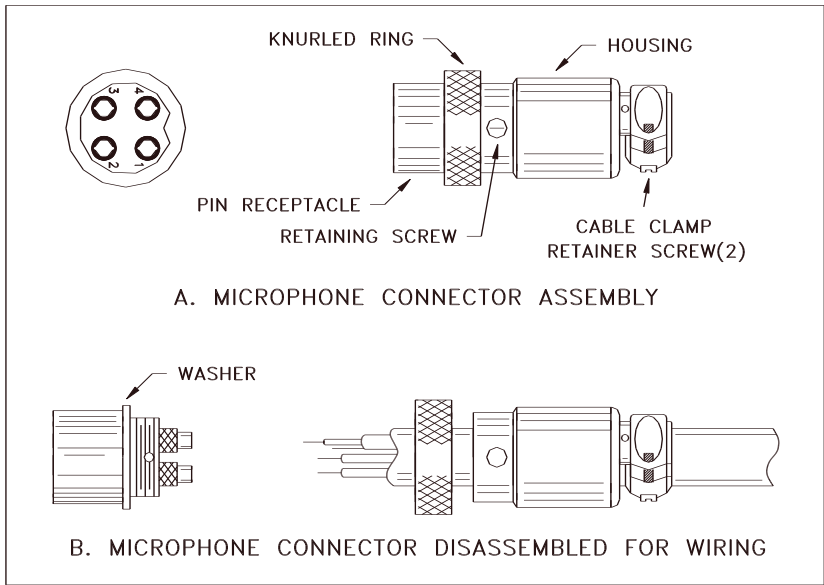

Fig. 2 Microphone plug wiring
4. Feed the microphone cable through the housing, knurled ring as shown Figure 2.
7. Be sure that the housing and the knurled ring of Figure 2 are pushed back onto the microphone cable before starting to solder. If the washer is not captive to the pin receptacle body, make sure that it is placed on the threaded portion of the pin receptacle body before soldering.